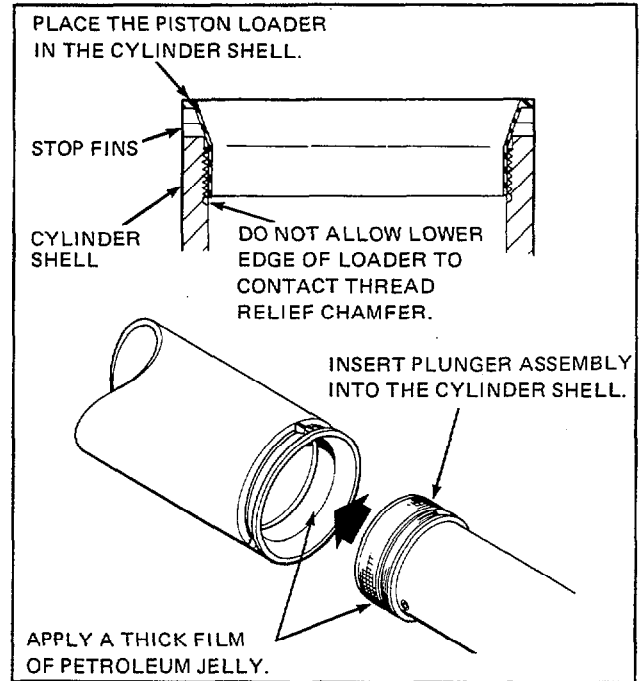

Figure 14. Master Plunger Loader
8. Place the largest diameter piston loader in the cylinder shell. See Figure 14. The loader must cover all of the threads but not contact the thread relief chamfer. The length of the stop fins can be trimmed with a sharp knife if more engagement is needed. The piston will not enter the shell if the loader contacts the thread relief chamfer. Apply petroleum jelly to the master plunger seals and loader I.D.
9. Slide the master/primary/slave plunger assembly all the way into the cylinder shell but don't tighten the large-diameter retainer. See Figure 14.